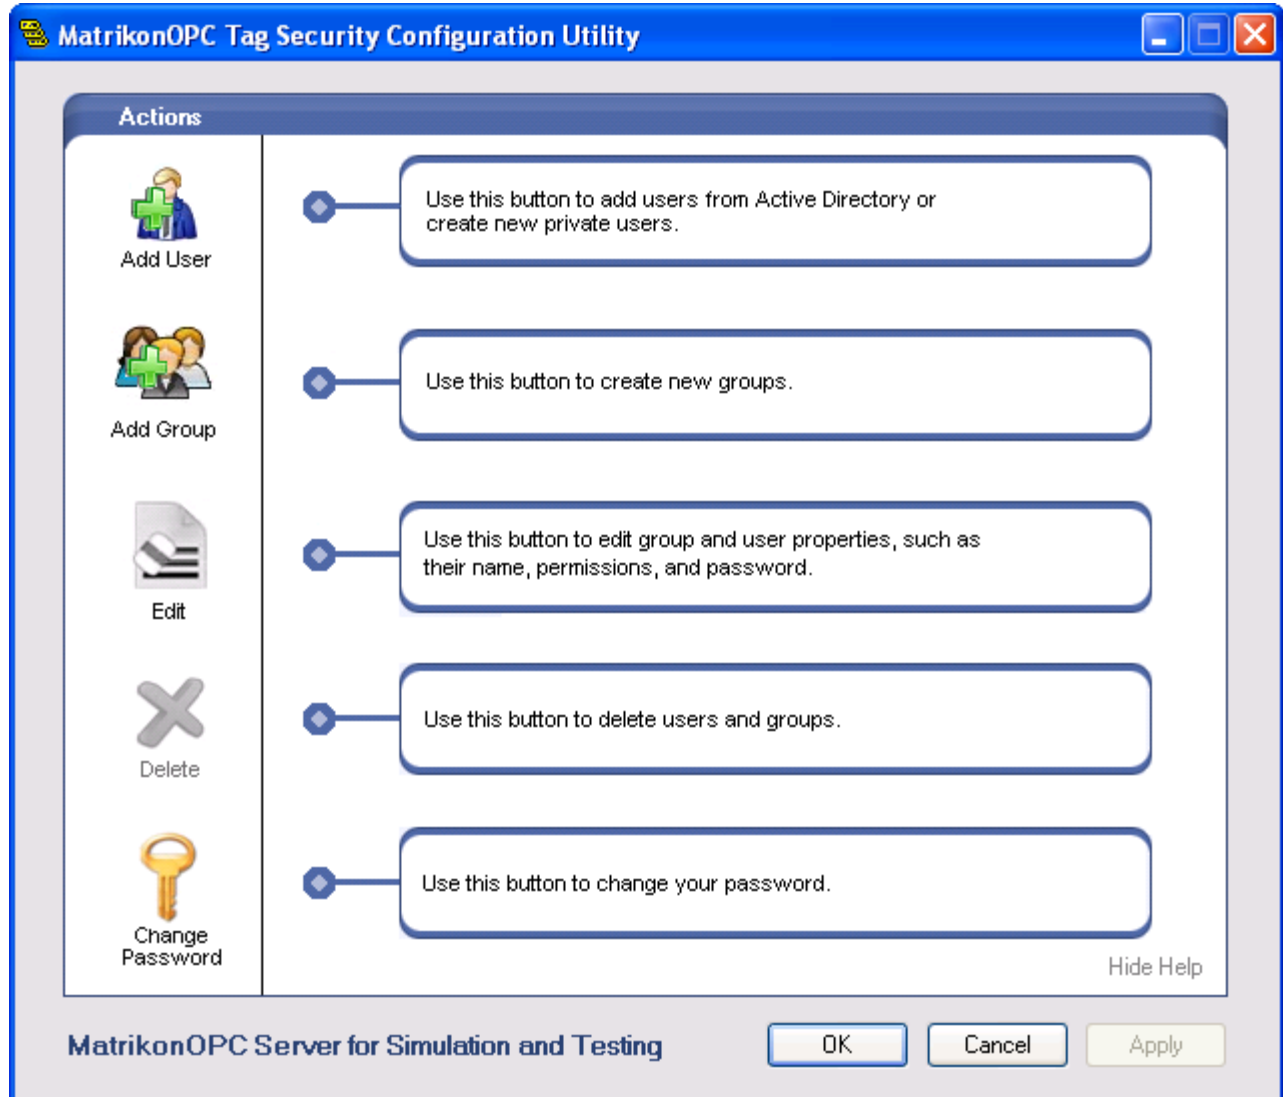

Figure 57 - Matrikon OPC Tag Security Configuration Utility Main Screen
4. The **Matrikon OPC Tag Security Configuration Utility** screen (Figure 57) appears.
The **Matrikon OPC Tag Security Configuration Utility** screen displays the name of the OPC server that is being configured for tag security. In Figure 57 above, the **Utility** screen shows that the **Matrikon OPC Server for Simulation and Testing** tag security is being configured.